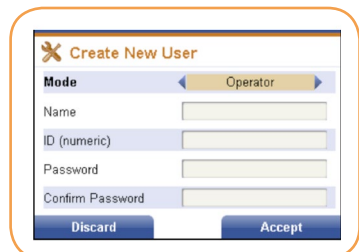

FIGURE 34
1. Using the [↓] key cursor to the Add User menu item and press the right soft key to select it. The Create New User screen is displayed (Figure 34).